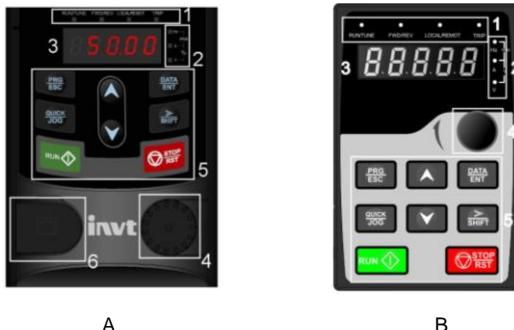

Figure 5-1 Keypad
- A in Figure 5-1 shows the keypad of the 0R7G-015G/018P models and B in Figure 5-1 shows that of the 018G/022P-500G models.